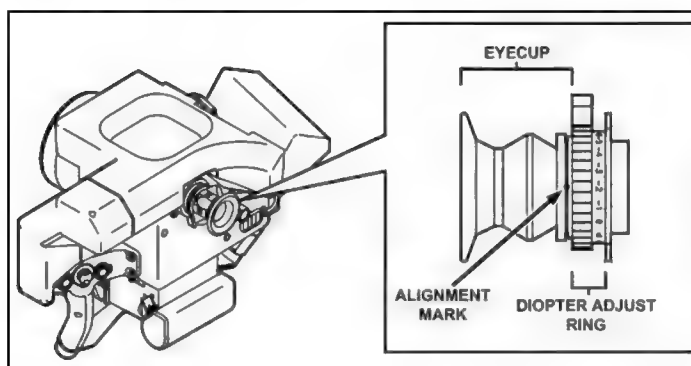

Figure 2-1. Diopter adjust ring.
a. **Diopter Adjust Ring.** The diopter adjust ring is located on the CLU eyepiece assembly (Figure 2-1). The gunner uses the diopter adjust ring to adjust the focus of the image. Any gunner with vision correctable to 20/20 can use the CLU to see an in-focus image without using glasses. The alignment mark is located on the eyepiece. Align the number that corresponds with the adjustment. This adjustment is constant on all CLUs.